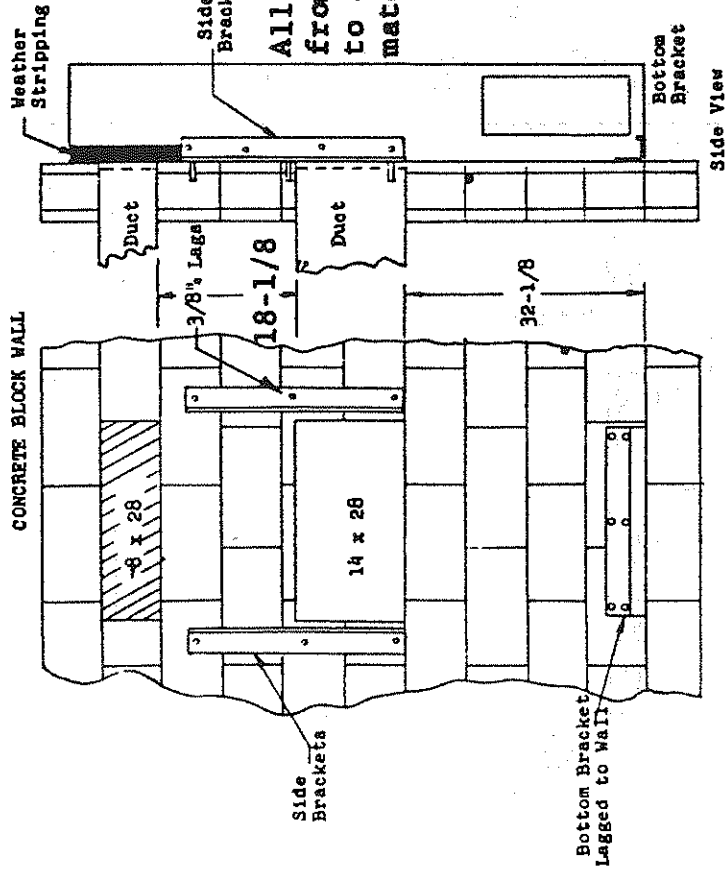

Fig. 1
1. Two holes, the size of the supply and return air openings must be cut through the wall as shown in Fig. 1 and 2 on page 5.